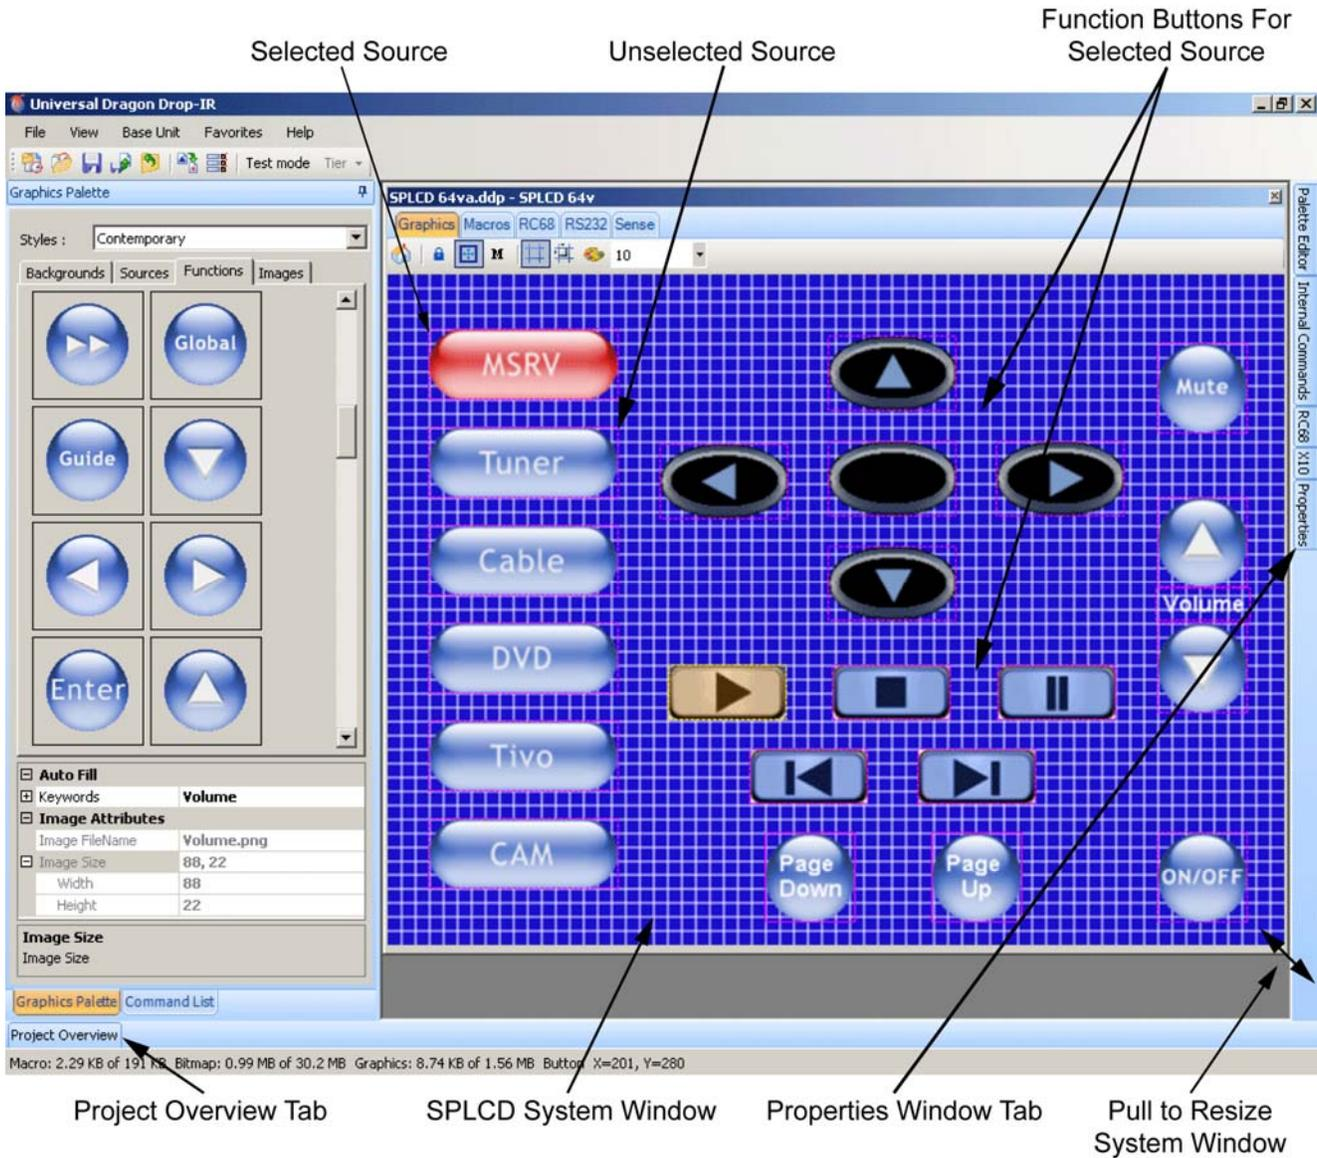

Figure 20 – Building The GUI Screen
**IMPORTANT NOTE:** The **SPLCD System Window** is scalable so the SPLCD System Window workspace can be enlarged for placing and aligning **Source** and **Function Buttons**. Clicking the **Properties** and **Project Overview Auto-Hide Buttons** (thumb tacks), sends those windows to the margins. This allows the SPLCD System Window to be expanded to its greatest size, by dragging the **lower right corner** diagonally, making the button placement process much easier. (Figure 20) Rolling over the **Project Overview** or **Properties Tab** with the mouse will cause the Window to pop-up. The Window will automatically 'hide' by moving the mouse anywhere on the screen, clearing the view of the workspace. To keep the window open, for example to add or edit text on a button, roll over the **Properties Tab** to un-hide the window, click the **Auto-Hide Button** again, and the window will stay in place as originally sized. This is also useful by hiding and unhiding the **Project Overview Tab** for direct selection of individual pages without covering the workspace.